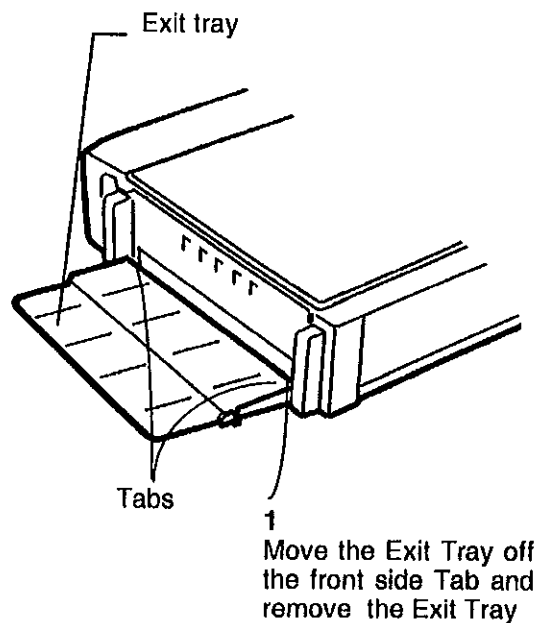

Figure 3. Removing the Exit Tray
- 1 (Figure 3). Remove the Exit Tray